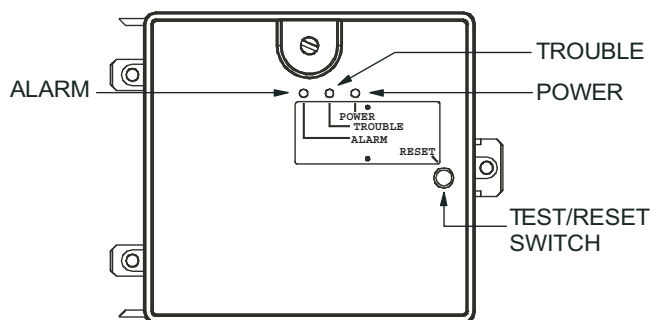

Fig. 33 — Controller Assembly
- The contacts on the controller's supervisory relay switch positions. (See Fig. 33.)